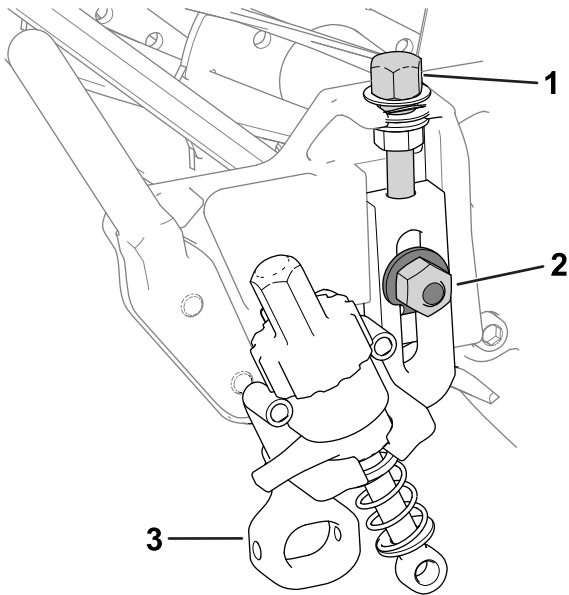

Figure 11
1. Thread the previously removed height-of-cut adjusting screws into the top of the height-of-cut assemblies (Figure 11).
2. Install the height-of-cut assemblies to the cutting unit side plates using the previously removed plow bolts, nuts, and special washers (Figure 11).